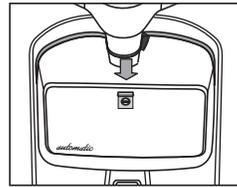

Fig. 8
1.2 **Glove compartment lock:** To open the lock, insert the key into the lock and rotate anticlockwise till the end and then press the lock downwards. For closing, press the lid, turn the key clockwise and then take out the key (Fig. 8 & 9).